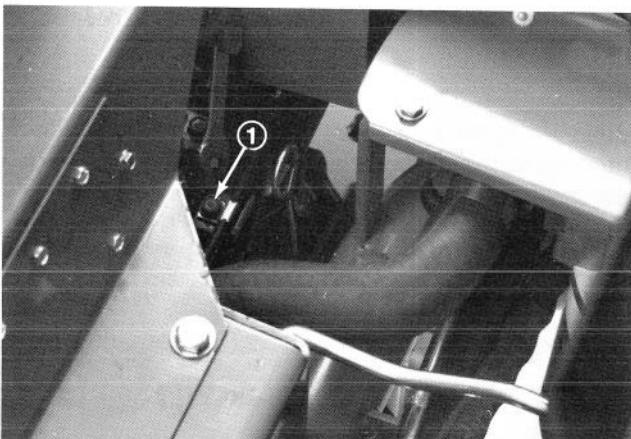

Figure 22
5. Using a 10 mm wrench, open the air bleed screw on the fuel injection pump (Fig. 22).